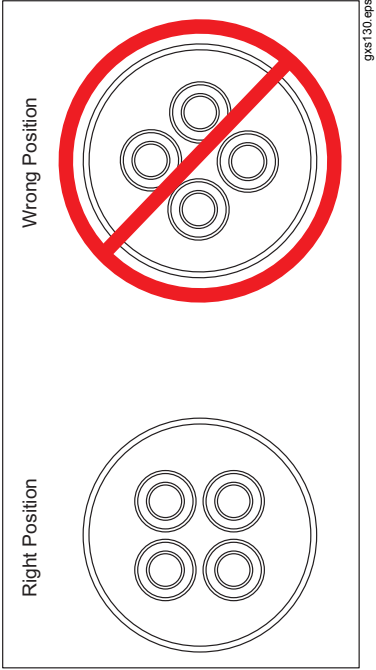

Figure 14. Insert Alignment
- Rotate the insert to the correct position, as shown in Figure 14.